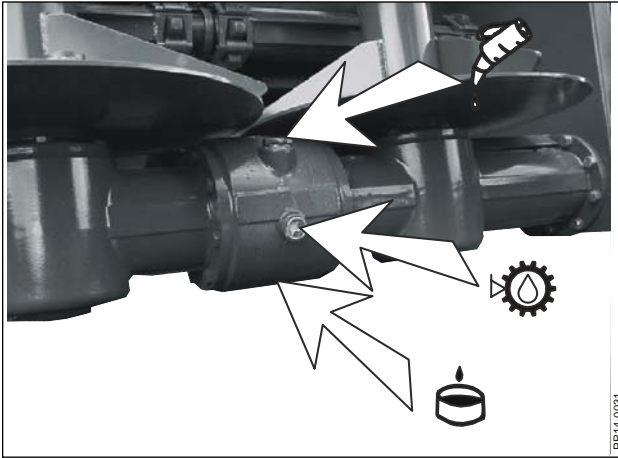

Fig. 6.2
- Fig. 6.2** Oil content:  **8 litres.** Time of emptying: approx. 2 hours at 20° C